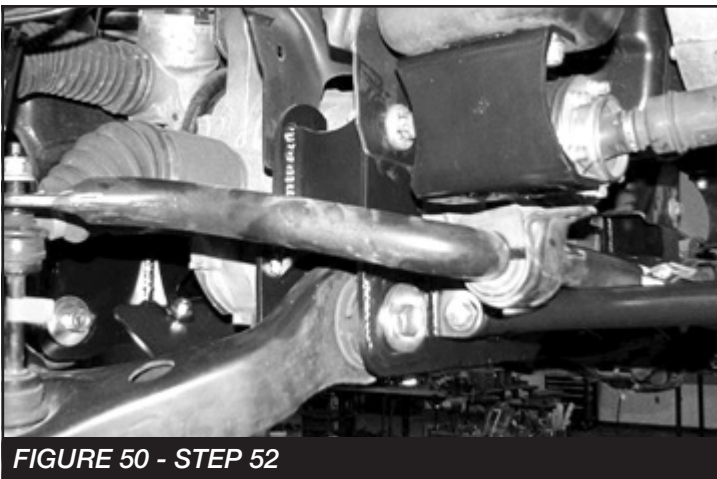

FIGURE 50 - STEP 52
52. Install FT30492 & FT30493 (sway bar brackets) to the frame using the factory hardware. Next, install the sway bar to the new brackets using the supplied 3/8 X 1-1/4" bolts, nuts and washers. Install the factory sway bar link in to the end of the sway bar and lower control arm mounting. Torque Brackets and links to 52 ft.-lbs. **SEE FIGURE 50**